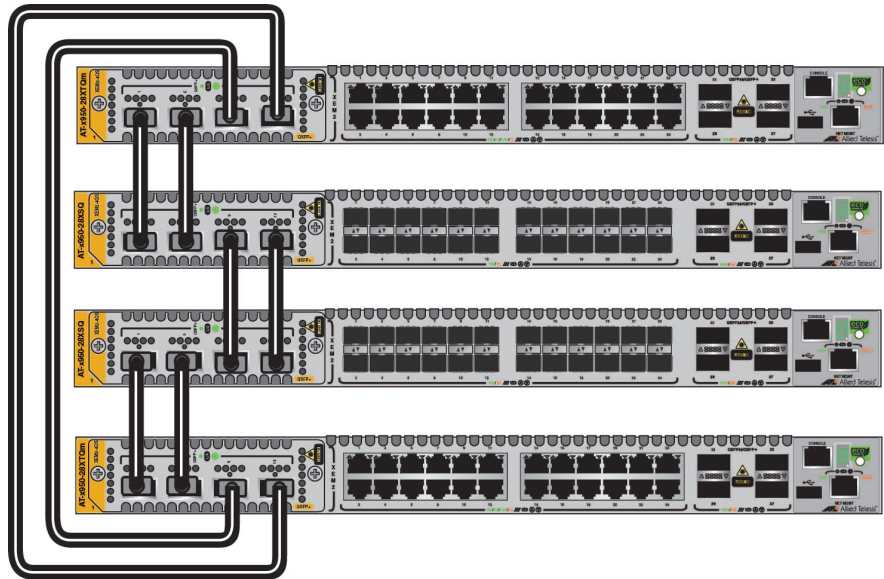

Figure 37. Example Trunk Using XEM2-4QS Line Cards
- Figure 37 on page 87 is an example of a stack of four switches with a trunk of ports on XEM2-4QS Line Cards.